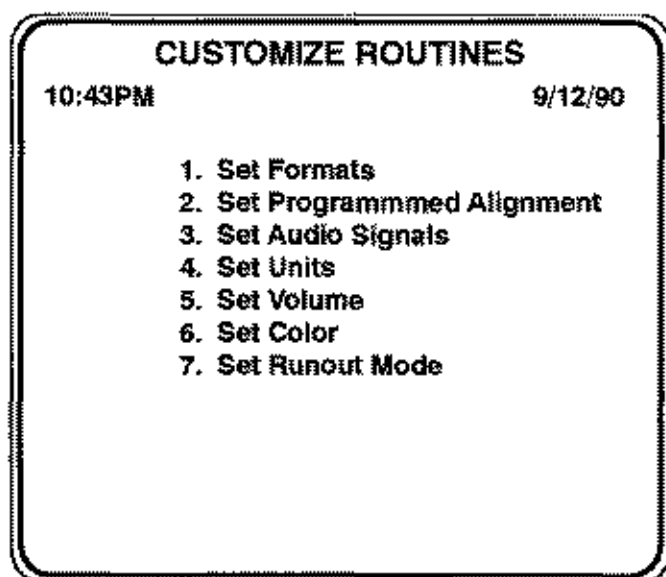

Figure 2-29
- Select Item #1, "Customize Routines," from the "Special Functions" menu. The "Customize Routines" screen appears (see Figure 2-29).